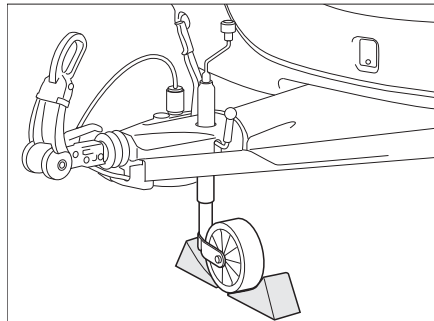

Fig. 170 Securing support wheel
- Place the support wheel diagonal to the direction of travel and secure with suitable tools (Fig. 170).